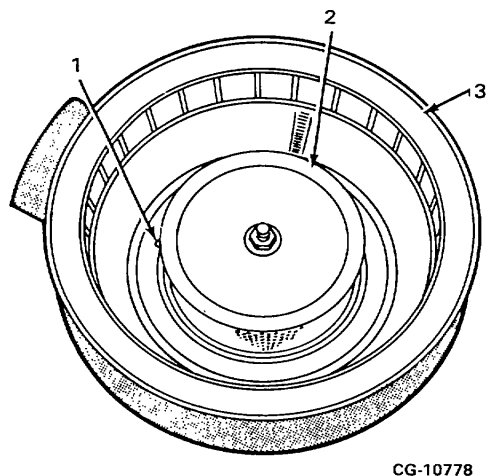

Figure 15. Top View of Dual Element Air Cleaner
The current dual element air cleaner assembly air cleaner restriction connection (1, Figure 15) is located between the primary and the secondary element (2) in the bottom of the air cleaner housing (3). This arrangement allows only the primary (outer) element to be sensed by the restriction indicator or dash mounted vacuum gauge. **THE INNER ELEMENT IS NOT RECORDED ON THE RESTRICTION INDICATOR OR DASH MOUNTED VACUUM GAUGE.**